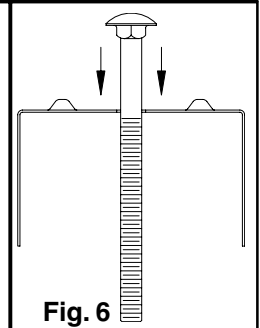

Fig. 6
Insert the 1/4 - 20 x 3 1/2" Carriage Bolts (10) into the square holes in the back of the fixture housing. **See Fig. 6.** Hold the housing up to outlet box and feed electrical supply wires through the center hole.
Insert the 1/4 -20 x 3 1/2" Carriage Bolts (10) into the square holes in the back of the fixture housing. **See Fig. 6.**